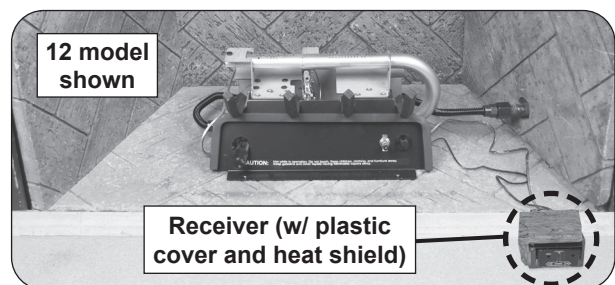

Fig. 18-3 Place remote receiver
3. **Place the remote receiver at the front right corner of the fireplace.** Place as far from the burner system as possible. See Fig. 18-3.
4. Place the plastic cover over the remote receiver with the open side facing forward to allow access to the receiver controls. Then place the decorative heat shield. See Fig. 18-3.